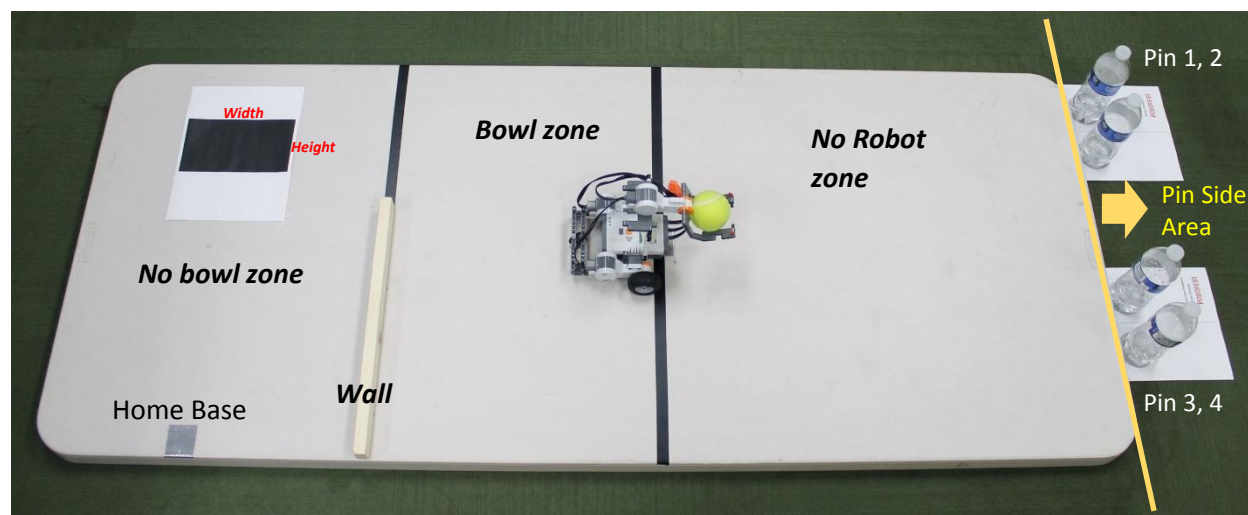

Figure 1 – RoboBowl Playing Field (Sr. Division pins)
5. The robot cannot *physically touch* the “No Robot” zone, table surface to the right of the center black line as shown in Figure 1. Part of the robot may hover above the “No Robot” zone, as long as it does not touch the table surface.